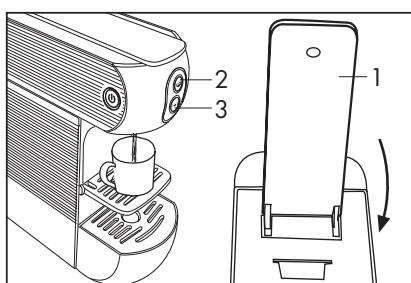

Fig. 10
- Completely close the lever (1), press the dispensing button (2) and press it again to stop dispensing when the desired quantity of beverage is reached (**Fig. 10**). In case of difficulty in closing the lever, completely open it and close it again.
- During dispensing the dispensing button (2) blinks and stops when dispensing is ended.
- To prepare a long coffee (American style) press the dispensing button (2) and, after having prepared the espresso coffee and ejected the empty capsule, dispense the desired amount of hot water.
- To extract the capsule, slowly lift the lever (1). If the capsule is not ejected, repeat the operation or press the dispensing button (2) and lift the lever (1) at the same time.